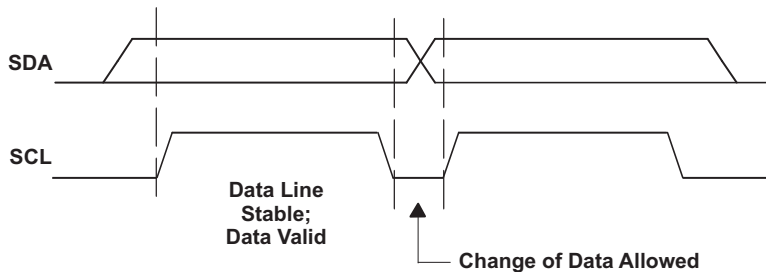
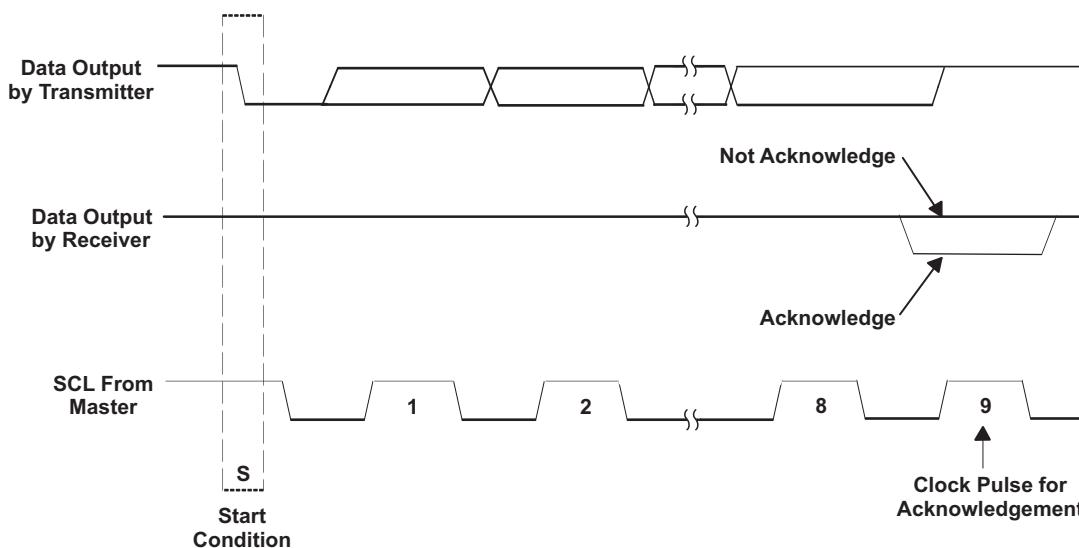

Figure 6. I²C Bit Transfer
Figure 7. I²C Acknowledge
- The master then generates the SCL pulses and transmits the 7-bit address and the *read/write direction bit* R/\overline{W} on the SDA line. During all transmissions, the master ensures that data is *valid*. A *valid data* condition requires the SDA line to be stable during the entire high period of the clock pulse (see Figure 6). All devices recognize the address sent by the master and compare it to the respective internal fixed addresses. Only the slave device with a matching address generates an *acknowledge* (see Figure 7) by pulling the SDA line low during the entire high period of the ninth SCL cycle. On detecting this acknowledge, the master knows that a communication link with a slave has been established.